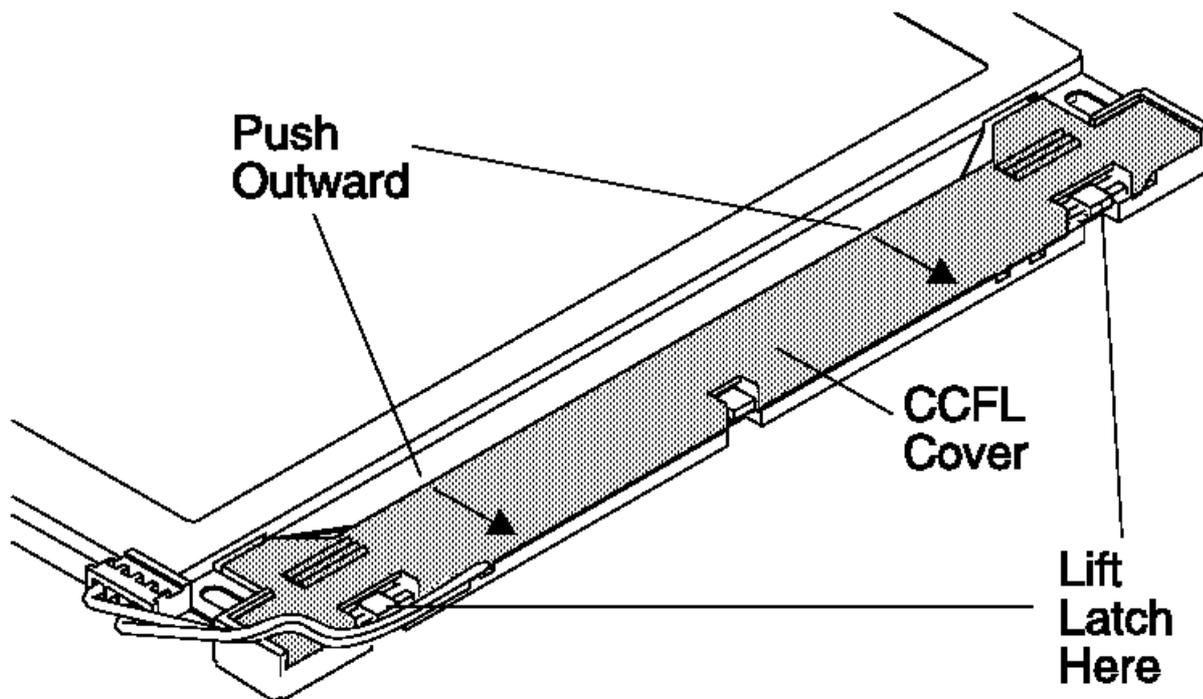

Figure 3-12. Opening the CCFL Front Cover
3. Remove the CCFL cover by lifting the latches and pushing the cover outward as shown in Figure 3-12.
- b. Make sure that CCFL cables are seated completely into the groove and routed over the corner of the cover as shown in Figure 3-12.